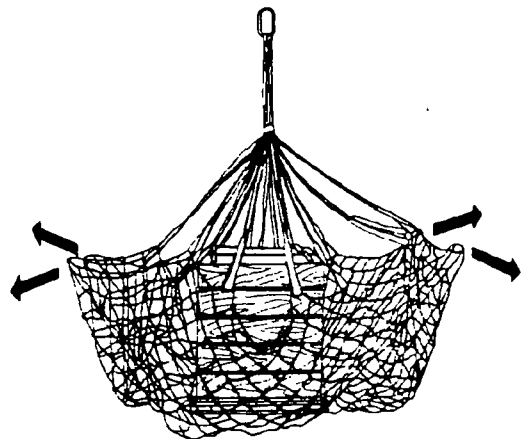

Figure 1-12. Net Pulled Outward from the Load
Step 6 - Lift the sides of the net up while taping the legs so that the net does not get caught on the pallet or load protrusions (Figure 1-12).